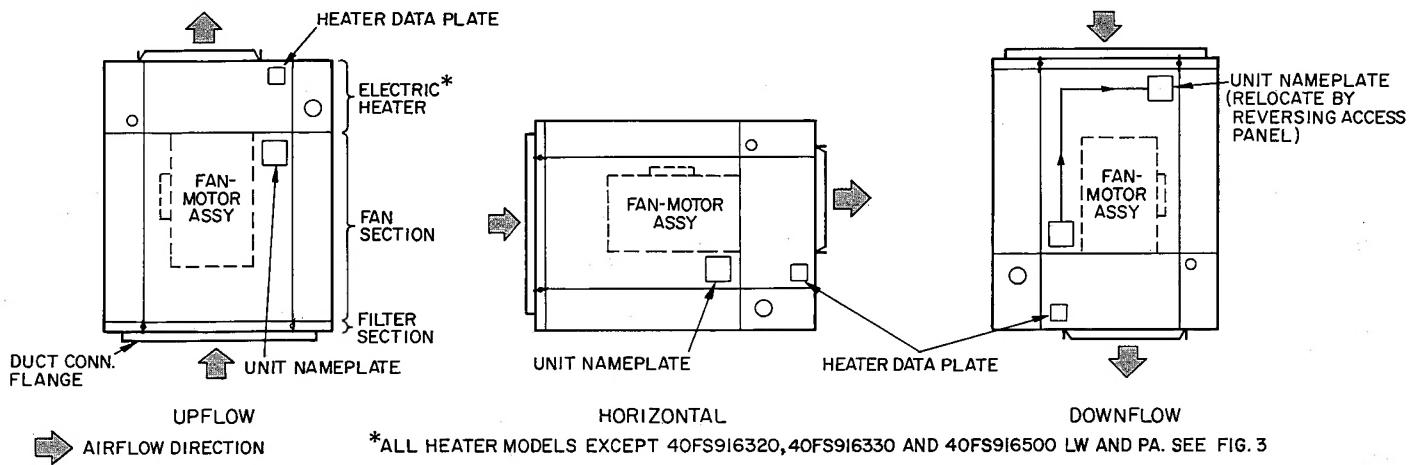
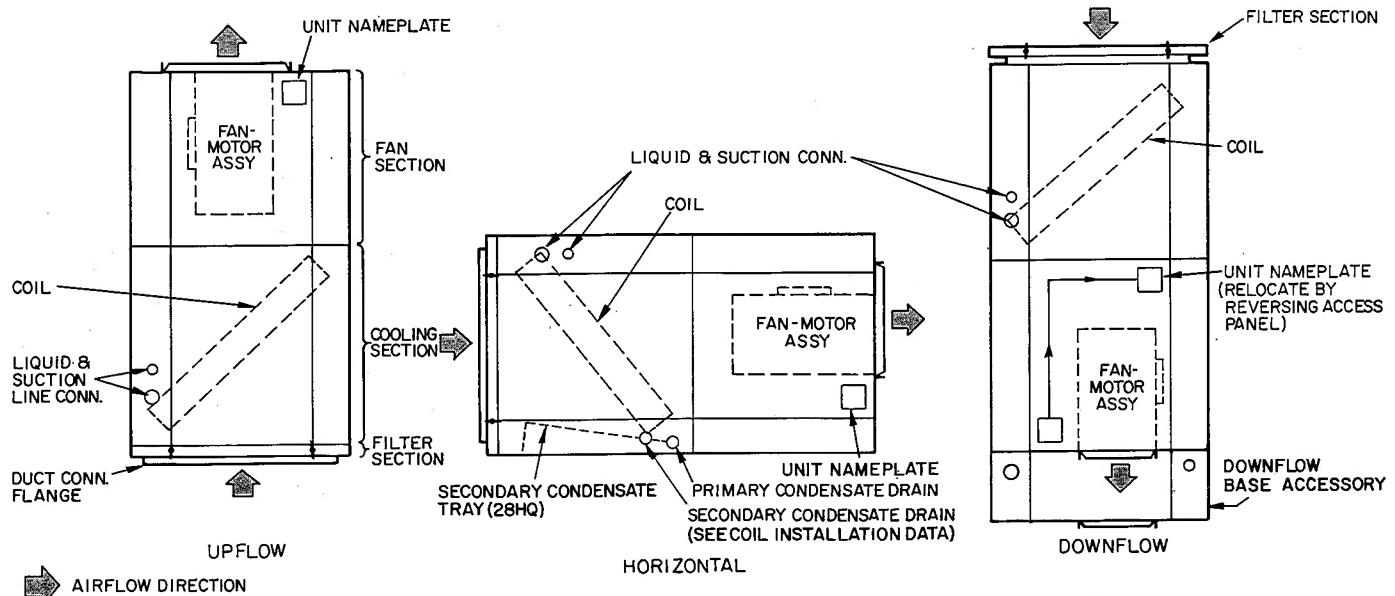
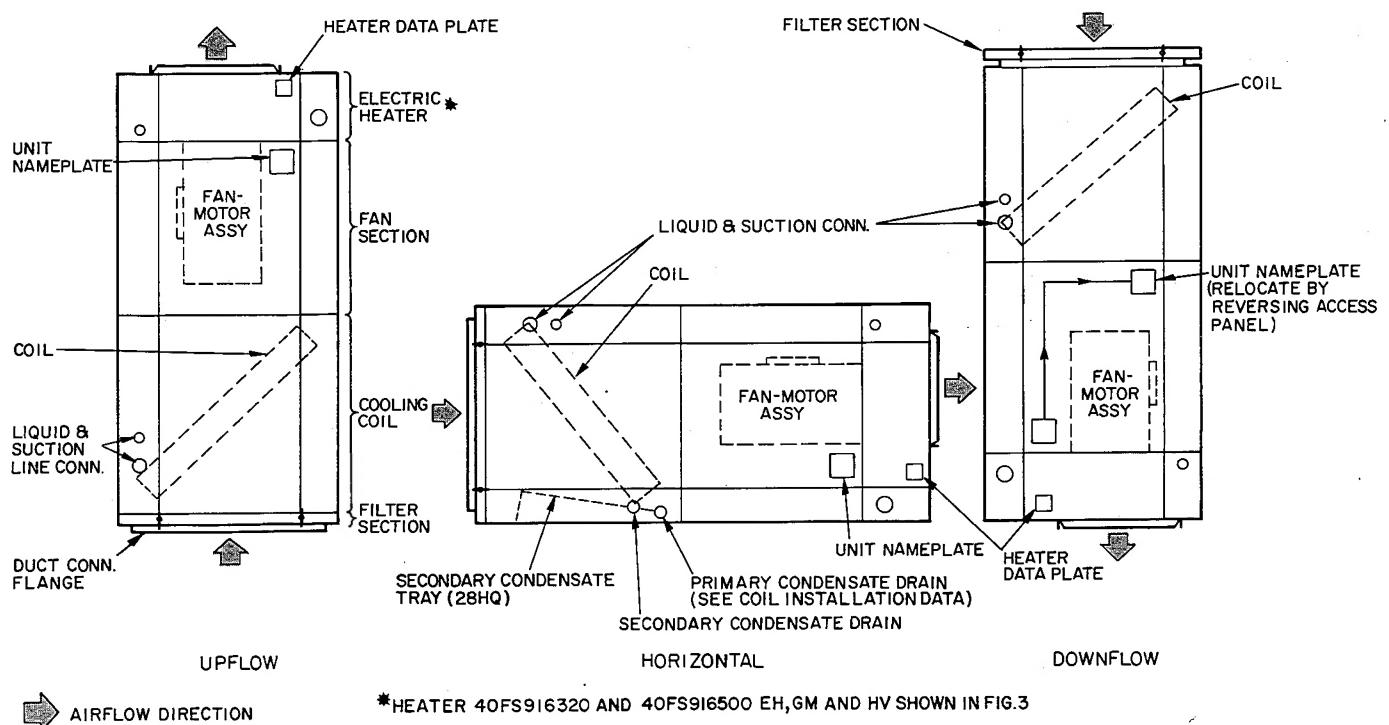

Fig. 2 — Heating Unit Assembly
Fig. 4 — Cooling Unit Assembly
Fig. 5 — Heating and Cooling Unit Assembly
Step 2 — Determine Position of Unit by Air-flow Direction — See Table 3 and Fig. 2, 3, 4 and 5. Ensure access panels on all units face front before and after unit assembly.
HEATING UNIT ASSEMBLY (Fig. 2)
To position heating unit for horizontal airflow, simply place assembled unit on either left or right side with access panels at front. Position Model 40FS075 horizontally only with the motor above the scroll as shown in Fig. 4.
Upflow and Horizontal Cooling Unit — Position fan section for upflow air direction and coil in upright position as shown in Fig. 4, page 6. Set fan section on top of cooling coil casing. Attach fan section to coil casing with 5 no. 10 hex head sheet metal screws provided. Clearance holes for screws are provided on each side (2) and back (1) of fan section and engagement holes in sides and back of coil casing. (Drill engagement holes as required).
Downflow Cooling Unit — Install as accessory downflow base under fan section to provide a "firebreak" in accordance with UL requirements. This base, which is a heater enclosure with no heating components in it, is shown in Fig. 4. Install base in the same manner as the heater as described previously in Heating Unit Assembly. Also see Fig. 2. The bases are used as follows:
Upflow and Horizontal Heating/Cooling Units — Position heating unit assembly (Fig. 2, 3) for upflow air direction and coil in upright position as shown in Fig. 5 and 7. Set heating unit assembly on top of cooling coil casing. Attach heating unit assembly to coil casing with 5 no. 10 hex head sheet metal screws provided. Clearance holes for screws
Downflow, Heating/Cooling Unit — When 40FS916320, or 40FS916500EH, GM, or HV heaters are used in this assembly, install accessory downflow support angles 40FS900241 to support fan section/coil weight as described on page 3. Turn fan section/electric heater assembly (Fig. 2, 3) over so fan discharges downward thru electric heater. Remove return air duct flange from coil casing.